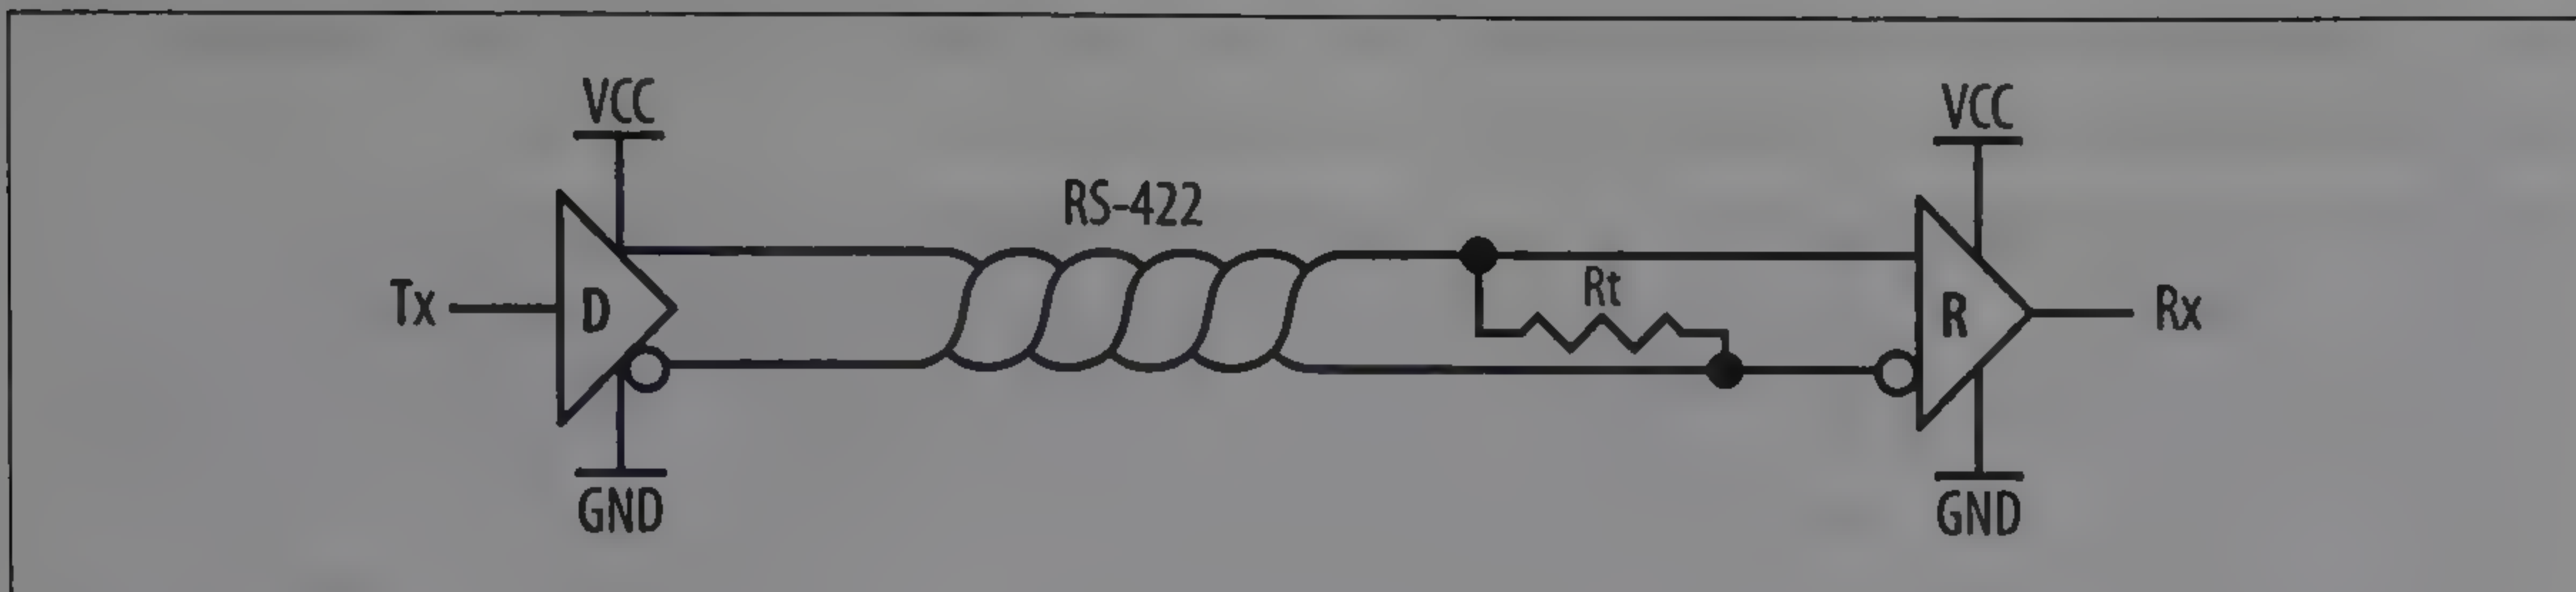

Figure 10-9. RS-422
Figure 10-9 shows a basic RS-422 link, where a driver (D) is connected to a receiver (R) via a twisted pair. The resistor, R_t , at the receiving end of the twisted pair is a termination resistor. It acts to remove signal reflections that may occur during transmission over long distances and is required. R_t is nominally 100–120 Ω .